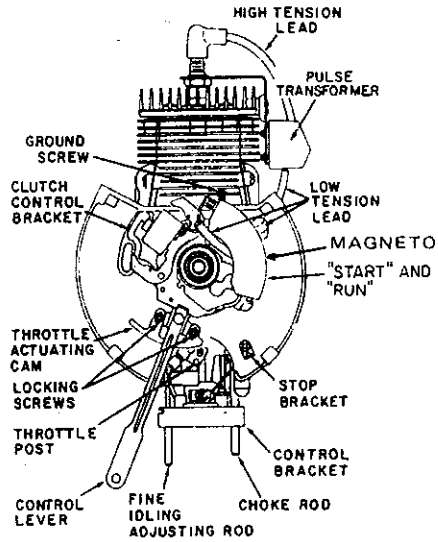

Figure 33
B. The only check which can be made to determine whether the solid state ignition system is working is to separate the high-tension lead from the spark plug and check for spark. A spark indicates that the unit is all right—that the spark plug should be replaced. No spark indicates that some other part needs replacement. Check as follows (Figures 33 and 34).
- (1) Inspect high-tension lead for cracks or indications of arcing. Replace the transformer if questionable lead is found.
- (2) Check all low-tension leads for shorts. Check ignition cut-off lead to see that unit is not grounded out. Repair leads, if possible, or replace.
- (3) Before replacing pulse transformer unit, attach leads to a new transformer, ground the unit and test for spark. If a spark occurs now but didn't previously, replace the unit with a good one.